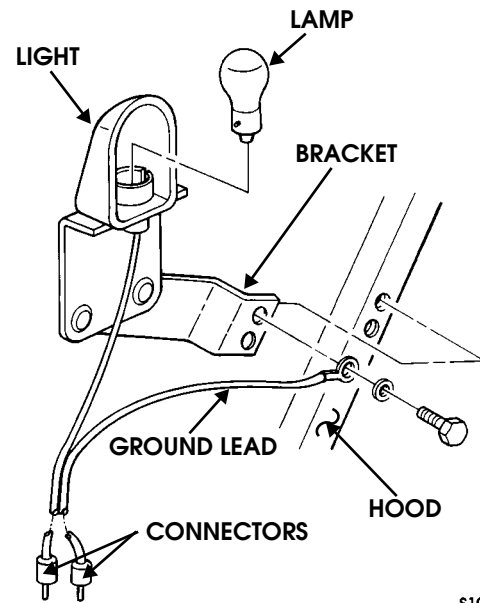

Figure 10-173: Underhood Light Replacement
1. Disconnect two connectors from wiring harness (Figure 10-173).
1. Install lamp in light (Figure 10-173).